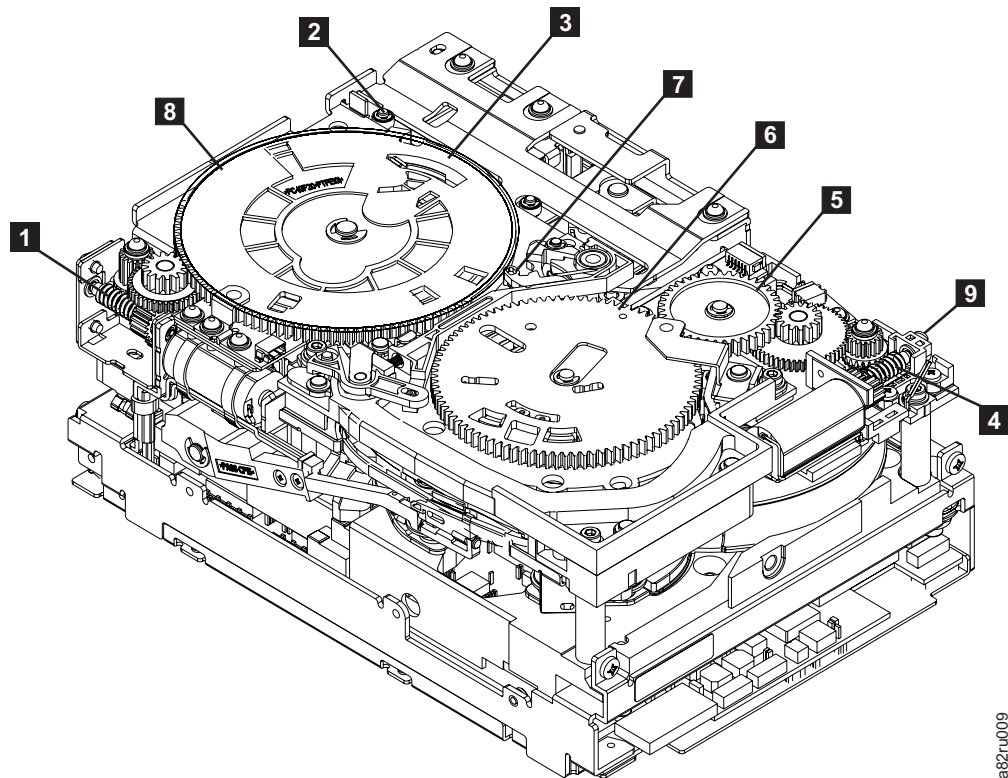

Figure 36. Drive with cover removed to reveal gear train.
- \_\_\_ Step 6. Locate the threader motor worm gear ( **4** in Figure 36) on the rear of the drive. You can either:
- a. Use your finger to rotate the threader motor worm gear and slowly rotate the threader mechanism gear ( **6** in Figure 36) clockwise;
- b. Use a #1 flathead screwdriver to turn the worm gear ( **9** in Figure 36) clockwise.
This rotates the threader motor worm gear ( **4** in Figure 36) clockwise, drawing the LBA into the cartridge.
- \_\_\_ Step 7. As the tape leader block assembly (LBA) is secured in the cartridge, you should hear the LBA retention spring clips click into place. If you do not hear the click, continue rolling until the threader motor worm gear ( **4** in Figure 36) stops. The LBA is in the correct position.
- a. Loader mechanism gear ( **6** in Figure 36 on page 103) nearest the front of the drive that actuates the cartridge loader mechanism.
- b. Position of the rotate stub ( **3** in Figure 36 on page 103).
- c. Front loader motor worm gear ( **1** in Figure 36 on page 103). Rotating this gear allows the loader mechanism gear ( **8** in Figure 36 on page 103) to turn.
- \_\_\_ Step 9. Rotate the loader motor worm gear ( **1** in Figure 36 on page 103) to turn the threader mechanism gear ( **6** in Figure 36 on page 103) counterclockwise. Continue turning until the rotator stub ( **3** in Figure 36 on page 103) loses contact with the lever ( **7** in Figure 36 on page 103). This releases the LBA leader pin.
- \_\_\_ Step 10. Rotate the threader motor worm gear ( **4** in Figure 36 on page 103) to turn the threader mechanism gear ( **6** in Figure 36 on page 103) counterclockwise. This moves the LBA out of the cartridge and past the read/write head. Stop this rotation when the LBA is near the tape guide roller nearest the rear of the drive shown as **1** Figure 37.
- \_\_\_ Step 11. Continue rotating the loader motor worm gear ( **1** in Figure 36 on page 103) until the rotator stub ( **3** in Figure 36 on page 103) is positioned as shown. Notice that the rotator stub ( **3** in Figure 36 on page 103) is nearly aligned with the cartridge loader tray guide bearing ( **2** in Figure 36 on page 103).